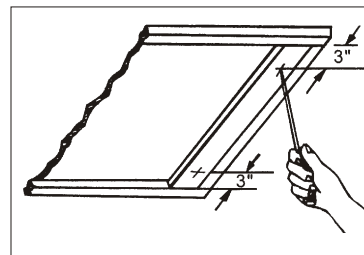

Fig.6
- b. Start a $1\frac{1}{4}$ " long wood screw (purchased locally) about 3" from each end of the 1"x2" wood strips (Fig.6)